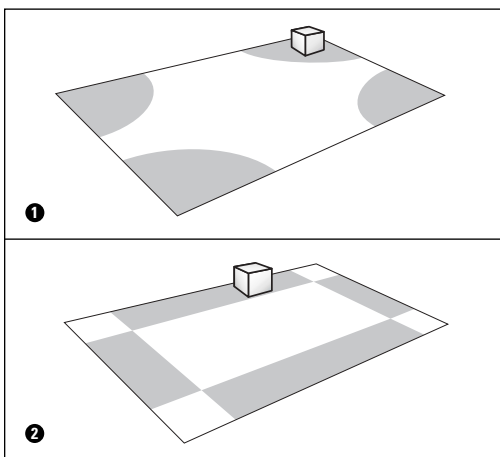

Fig. 7
We recommend positioning your subwoofer close to the wall, between the front speakers. Corner placement, Fig. 7 (1) provides the most bass, but sometimes at the expense of accuracy. A subwoofer placed near a wall (2) usually provides a good balance of quantity and accuracy.